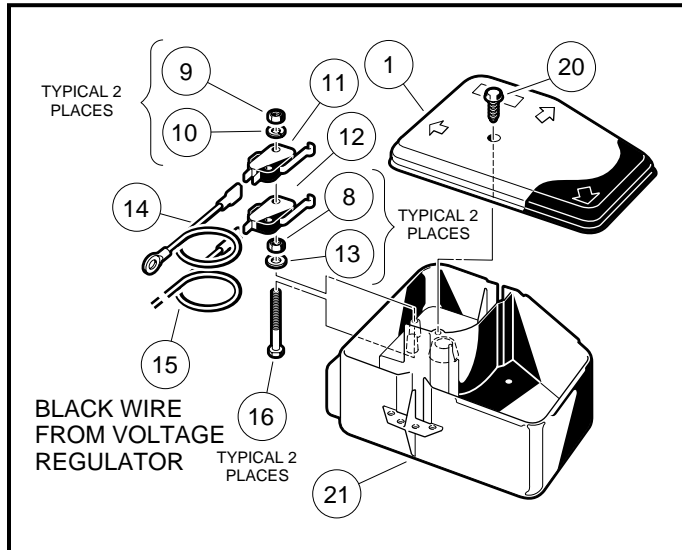

Figure 12-18 Accelerator Pedal and Kill Limit Switches
2. Remove electrical component box cover (1) (**Figure 12-18, Page 12-17**).
3. Disconnect the green wire and the orange wire from the accelerator pedal limit switch (11) (**Figure 12-18, Page 12-17**).
4. Remove the two nuts (9) and washers (10) that secure the accelerator limit switch in place.
1. Install the accelerator pedal limit switch (11) onto the two screws (16) and secure the switch using two washers (10) and nuts (9). Torque to 5 in-lb (0.6 N·m) (**Figure 12-18, Page 12-17**).
2. Connect the green wire to common (COM) terminal and the orange wire to the normally closed (NC) terminal of the accelerator pedal limit switch (**Figure 12-18, Page 12-17**).
3. Remove the nuts (9) and washers (10) that secure the accelerator pedal limit switch (11). Do not disconnect the wires attached to this switch (**Figure 12-18, Page 12-17**).
4. Disconnect the two white/black wires and the black wire from the kill limit switch (12).
5. Remove the kill limit switch (12).
1. Install the kill limit switch (12) onto the screws (16) (**Figure 12-18, Page 12-17**).
2. Connect the two white/black wires to the common (COM) terminal and the black wire to the normally open (NO) terminal of the kill limit switch (12).
3. Install the accelerator pedal limit switch (11) onto the screws (16). Secure the switch with washers (10) and nuts (9). Tighten to 5 in-lb (0.6 N·m).